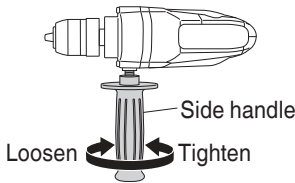

Fig. 5
9. Installing the side handle (Optional accessory) (Fig. 5)